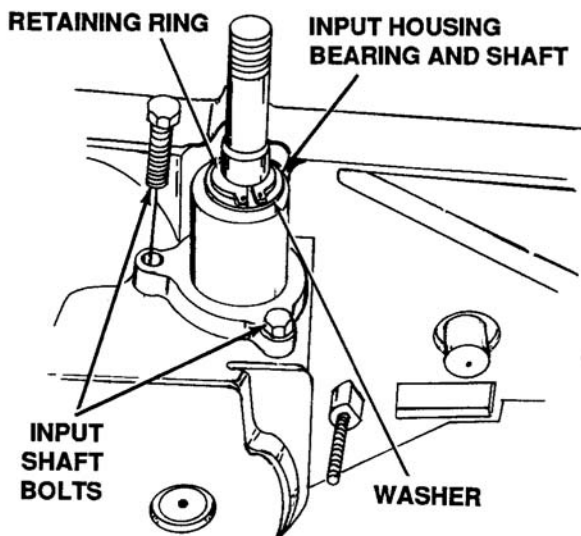

Figure 5-101. Input Housing Bearing and Shaft
3. Remove retaining ring from input shaft. See Figure 5-101.